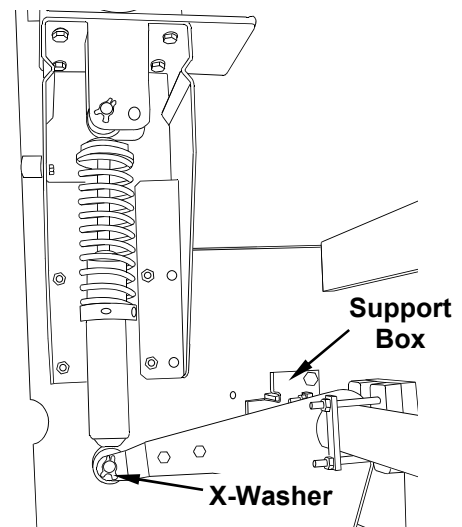

Figure 4.2-34
3. Remove the three screws that mount the support box to the kickback plate (See Figure 4.2-34) **on the shock absorber end of the cushion only!**